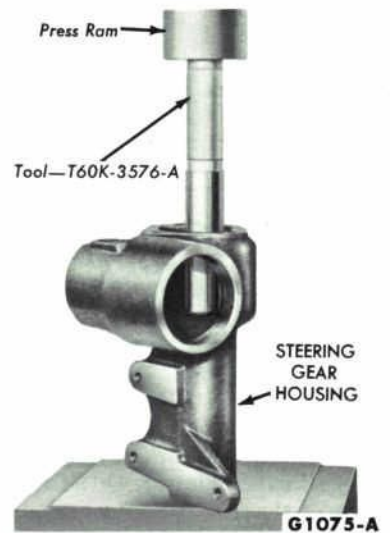
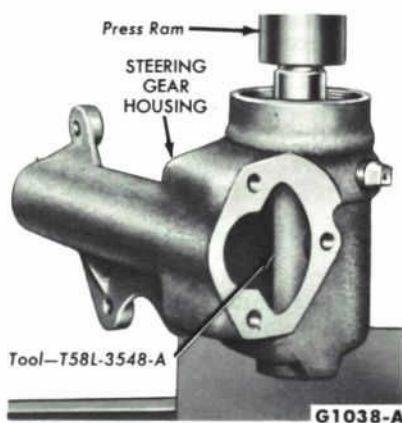

FIG. 20—Sector Shaft Bushing Installation
FIG. 22—Lower Bearing Cup Installation
1. If the sector shaft bushings (Falcon) or caged needle bearings (Galaxie and Fairlane) have been removed, press new parts into the housing (Fig. 20 or 21). Apply steering gear lubricant B8A-19578-A to the caged bearings. If the steering shaft upper and/or lower bearing cups were removed, press new bearing cups into the housing (Fig. 22 or 23).